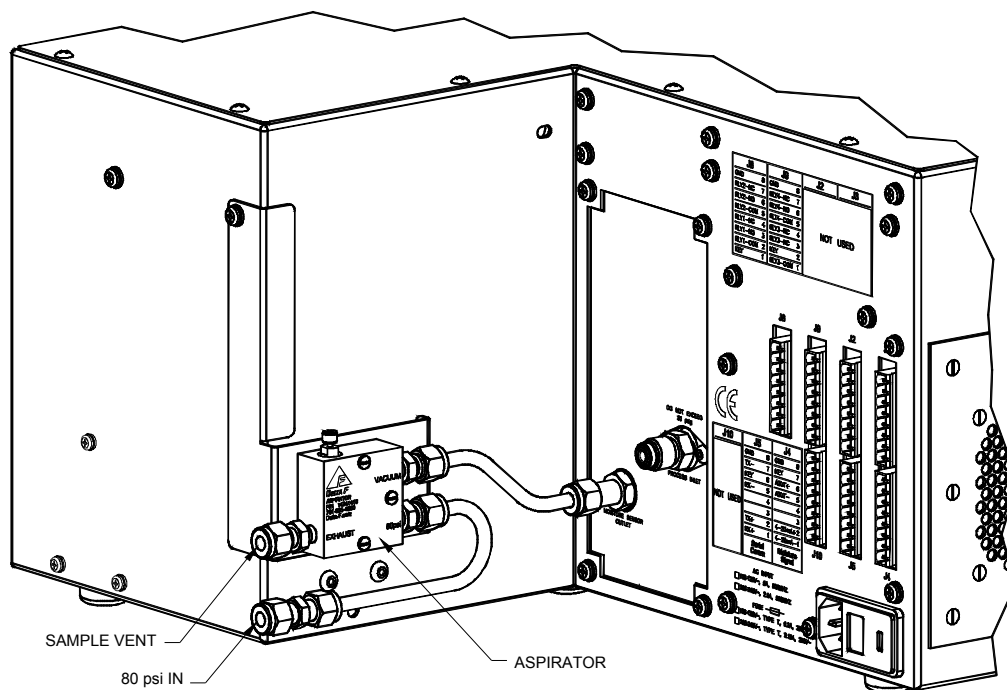
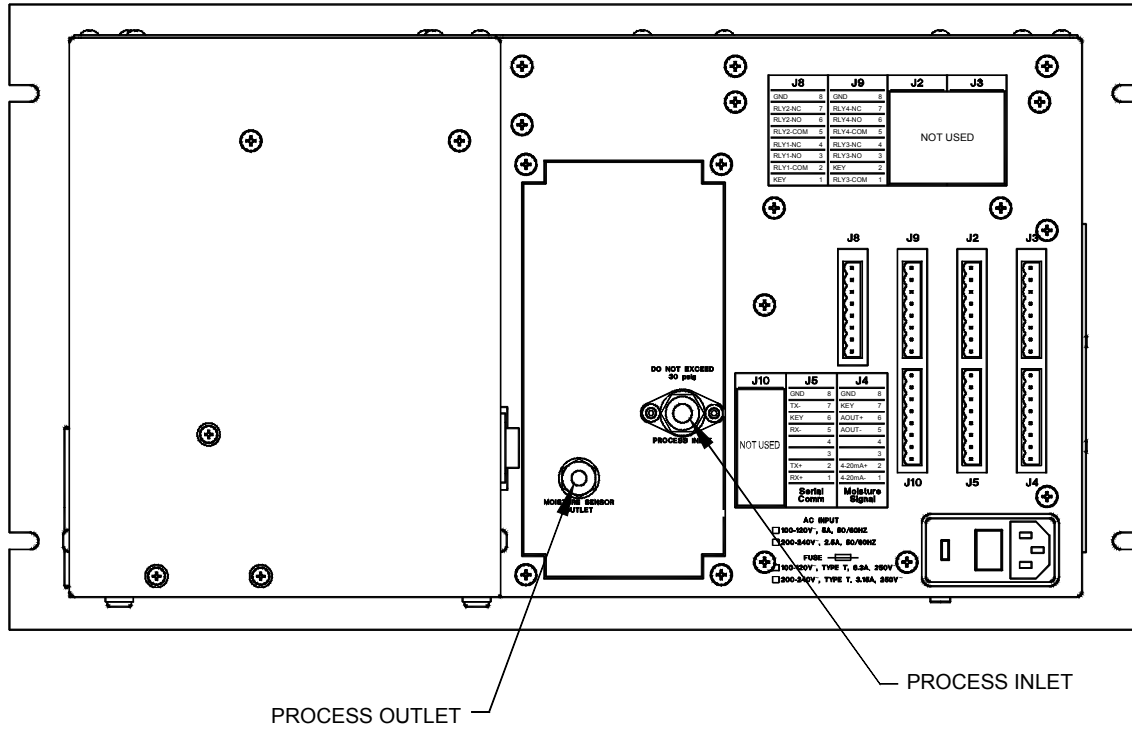

Figure 3: Aspirator Installation
Figure 4: Rear Gas Connections
The standard vacuum source provided with the DF-745 analyzer is a factory installed aspirator as shown in Figure 3. Aspirator installation with the optional gas panel is identical.
Sample gas is connected to the analyzer via a 1/4 inch male swivel VCR fitting labeled Process Inlet at the rear of the instrument as shown in Figure 4. Sample pressure of 30 – 150 psig is required and is regulated internally.
The sample gas outlet connection is a 1/4 inch compression fitting labeled Moisture Sensor Outlet as shown in Figure 4. A 1/4 inch stainless tube is connected from the analyzer sample outlet to the Aspirator assembly. See Figure 3. **Open the needle control valve (CCW) on the top of the aspirator assembly completely.** NOTE: If the Hydrogen Service Safety System is included, the sample outlet line must be made of steel. See page 89 for additional information.
- b. Turn on the vacuum source (aspirator) by applying gas to the high pressure inlet. See Figure 3. (Except when measuring in Helium background which is not run under vacuum but at ambient) NOTE: Once the vacuum source is connected and running, proper flow is indicated by a full scale reading on the flowmeter.
- g. Turn on the vacuum source (aspirator) by applying gas to the high pressure inlet. See Figure 3. (Except when measuring in Helium background which is not run under vacuum but at ambient)